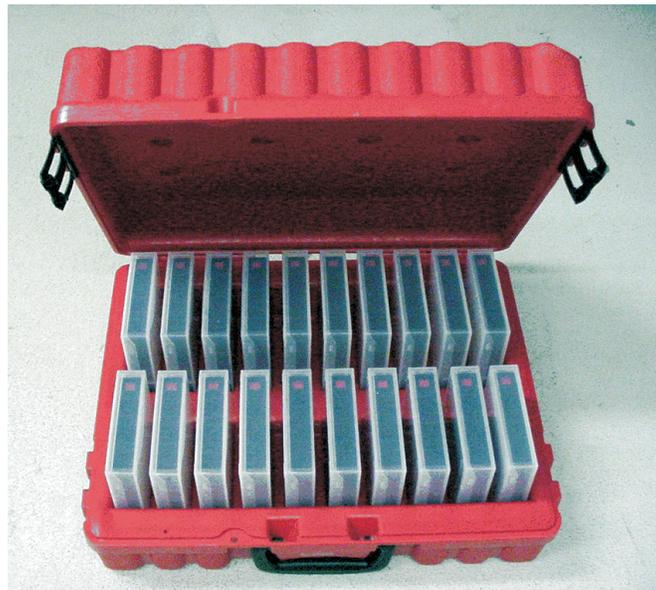

Figure 47. Tape cartridges in a Turtle Case
- Use only a recommended shipping container that securely holds the cartridge in its jewel case during transportation. LTO Turtle Cases (by Perm-A-Store) have been tested and found to be satisfactory (see Figure 47). They are available at <http://www.turtlecase.com>.